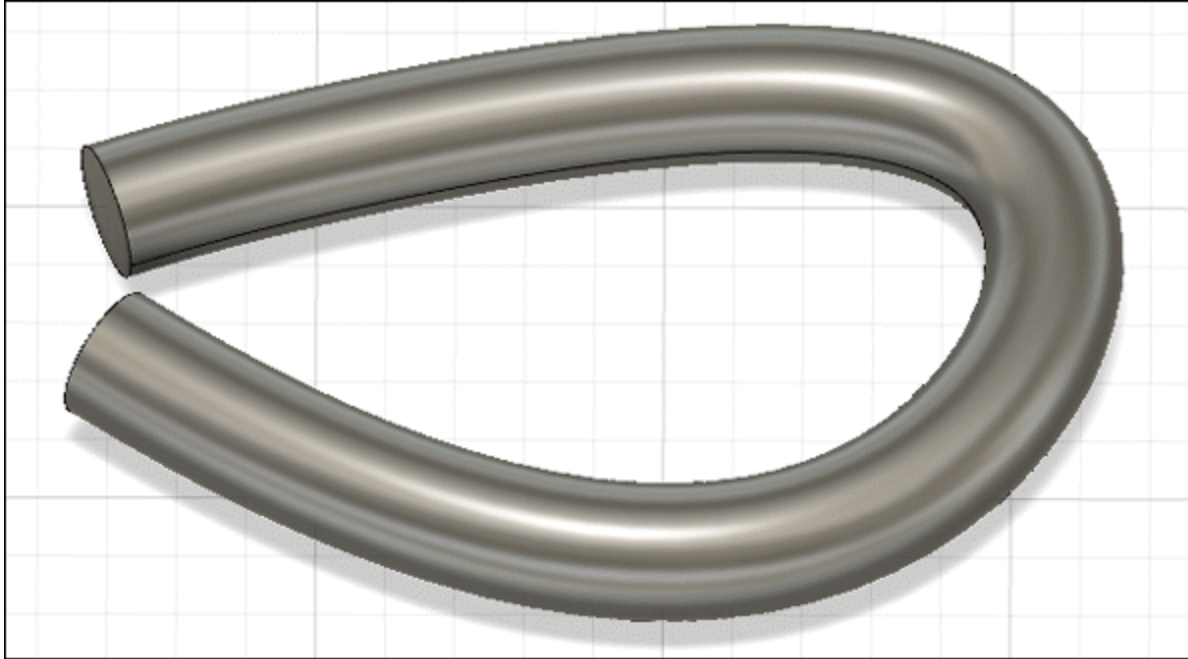

Figure-85. Pipe created
- Click **OK** button of **PIPE** dialog box to complete the process of creating the pipe; refer to Figure-85.